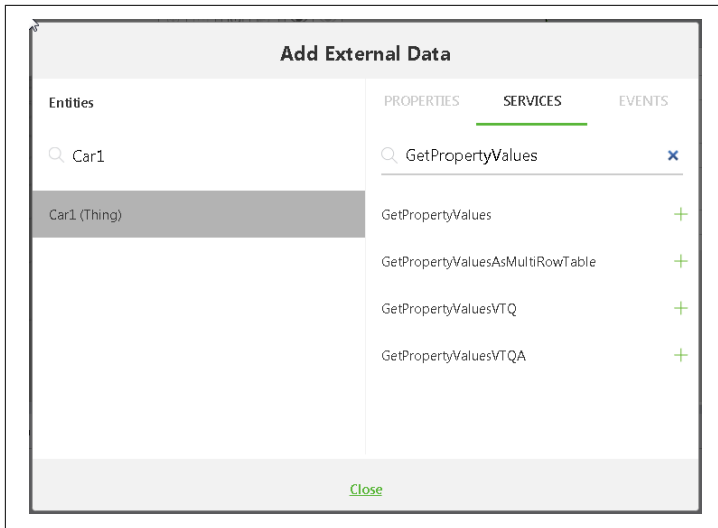

Figure 3-11. Pulling in data for Car1
7. In the Filter services field, begin typing **GetPropertyValues**, and click the green + sign next to GetPropertyValues once filtering is complete (Figure 3-11).